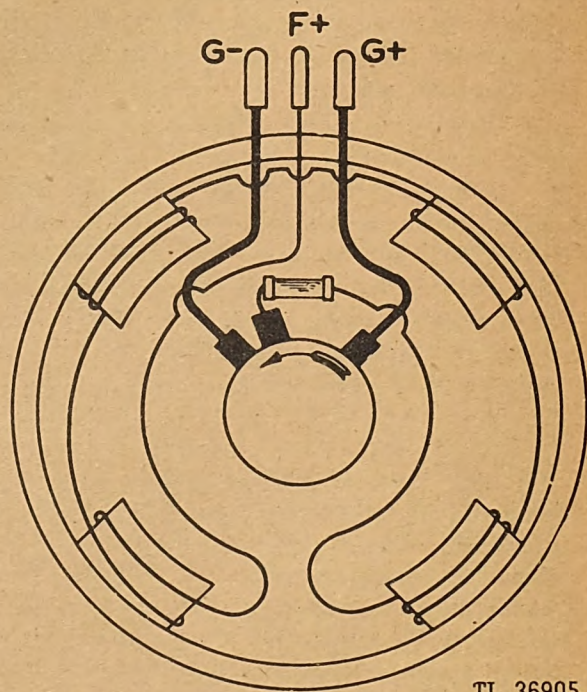

Fig. 253. Generator Internal Wiring Diagram
(1) *Ground Test.* Raise the grounded brush from the commutator and insulate it with a piece of paper or cardboard. See the Internal Wiring Diagram, Figure 253. Check with a test lamp from the G+ terminal lead with the F+ and G- terminals respectively, to locate the ground.
(3) Connect a battery and an ammeter in series with the F+ terminal to the third brush and note the current draw. The normal field current draw is 10 amperes at 24 volts. Proceed with care on this test, since a shorted field will draw a high current.
(6) Remove the temporary steel outer retainer from the commutator end housing and assemble the commutator end outer bearing retainer with the oil cup in place.
(7) Install the brushes and attach the pigtails according to the Wiring Diagram shown in Figure 253.
(8) Install the brush cover band. Press the drive gear onto the shaft. Install the castellated nut and cotter pin.
*o. Generator Preliminary Test After Overhaul.* For this test the generator must be unattached, so that its armature can turn freely. Connect a jumper from the generator terminals G+ to the generator terminal F+. Connect a wire from battery negative (—) to generator terminal G+. Momentarily touch the wire from the battery positive (+) to the generator terminal G+; the armature should rotate clockwise, viewing the drive end. If the armature does not rotate or its rotation is incorrect, check brush contacts on the commutator and the internal connections. (See Internal Wiring Diagram, Figure 253.) **CAUTION:** If the jumper from terminal G+ to F+ is neglected, the test will be wrong. When this test is properly carried out, the generator will be polarized correctly for final test and operation with the control unit. The generator final test will be accomplished when the control unit and battery are connected as given in paragraph 76d.